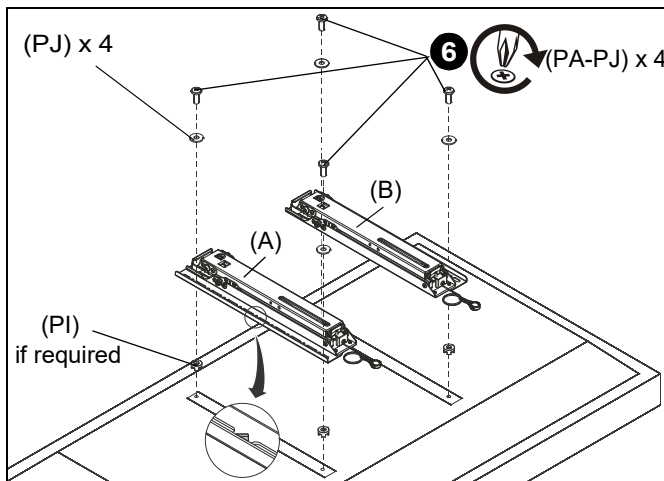

Figure 24
- Select screw *diameter* by examining hardware (PA-PC and PD-PH) (6mm or 8mm) and comparing with mounting holes on display. (See Figure 24)
- Select screw *length*: (See Figure 24)
- By hand, insert **SHORTEST** length screw of selected diameter (PA-PH) through 3/8" washer (PJ), bracket (A or B), nesting spacer (PI, if required), into display mounting hole. Do NOT thread screw into hole at this time.
- Make sure diamond on interface brackets is even with center of display. (See Figure 24)
- Use selected screws (PA-PH), washers (PJ) and spacers (PI), if necessary, to connect interface brackets (A and B) to back of display. (See Figure 24)